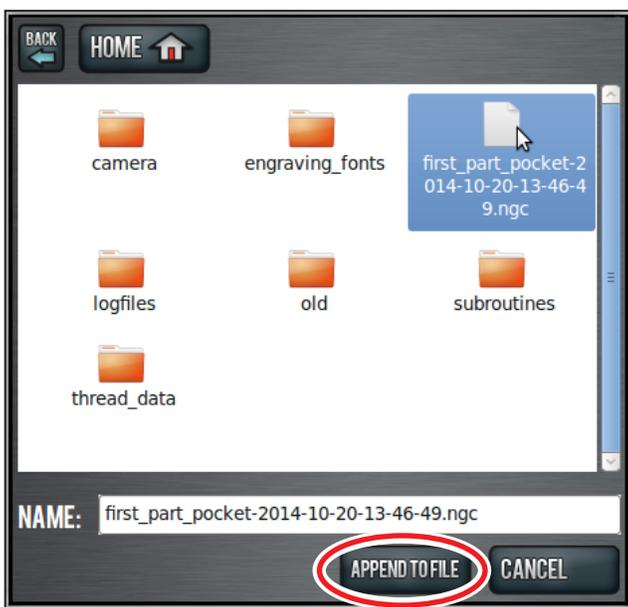
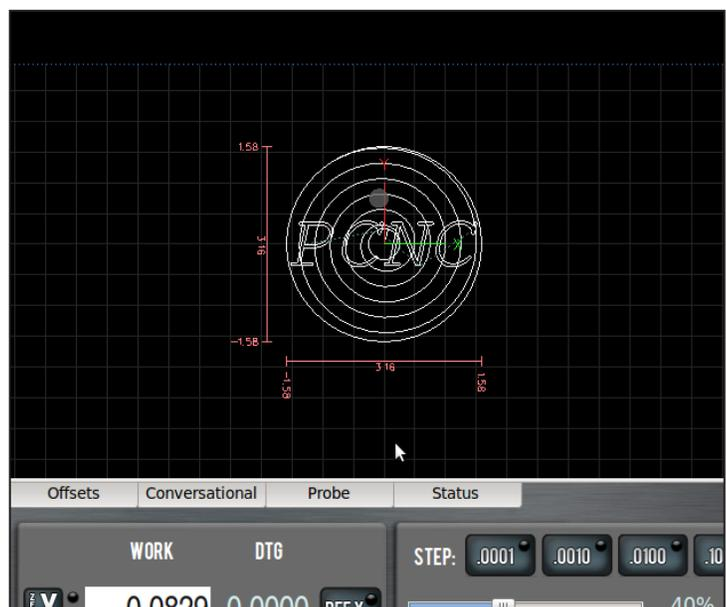

Figure 5.14
Figure 5.15
3. Click on the name of the file you created when you made the facing G-code, then click *Append to File* (see **Figure 5.14**). The changes to your file are loaded into the control, and you should see a tool path that looks something like **Figure 5.15**.